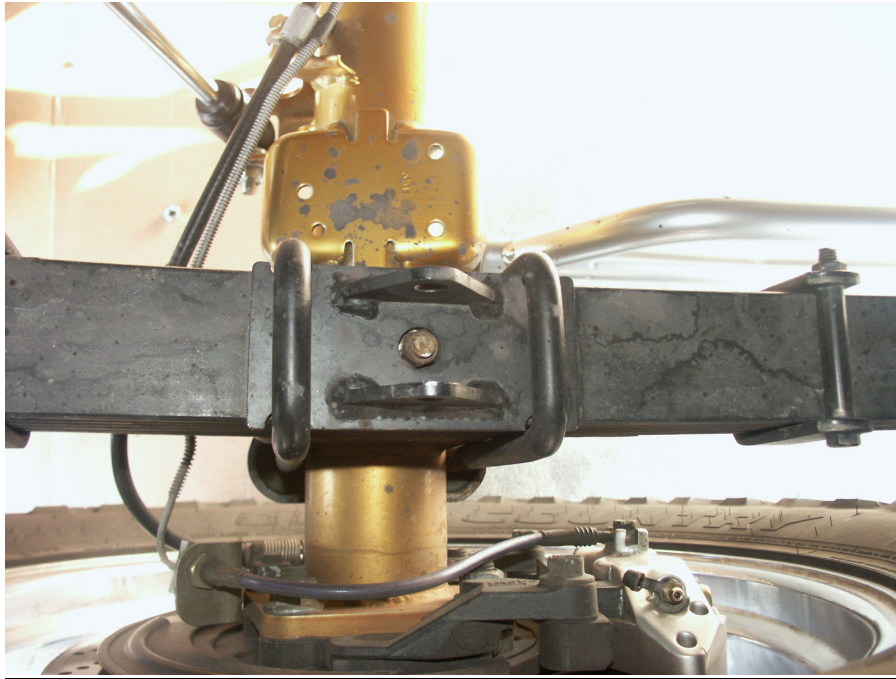

Figure 7: Leaf spring top plate
8. Working on the driver side of the truck ONLY, loosen the u-bolts holding the leaf spring to the rear axle housing. Remove the top spring plate and replace with the Cognito Motorsports Leaf Spring Top Plate. Re-fasten the factory u-bolts tightening to 100 ft-lbs of torque. Now repeat this step on the passenger side of the truck. See Figure 7